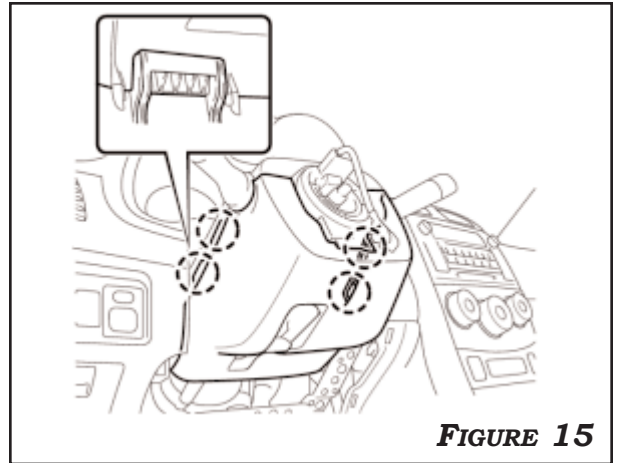

FIGURE 15
1. DISENGAGE 4 CLIPS TO REMOVE LOWER STEERING WHEEL SHROUD. **FIGURE 15.**